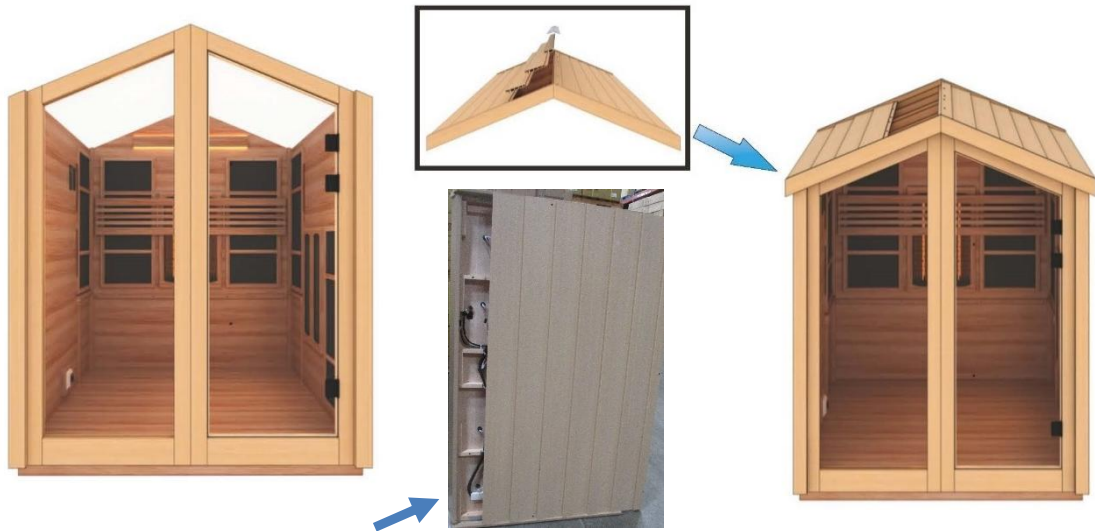

Figure 4a
1. Before installing the ROOF PANEL, you will need to remove the indicated tile sections of the LEFT SIDE ROOF PANEL and RIGHT SIDE ROOF PANEL with a Philips screwdriver. This will allow you to make the necessary connections for the ceiling lights and to screw the two ROOF PANEL sections together. Next, three - four adults can place the two sections of the ROOF PANEL up and onto the sauna room starting with the RIGHT SIDE ROOF PANEL and then the LEFT SIDE ROOF PANEL. You will need to feed the wire connections through the LEFT SIDE ROOF PANEL at the rear. See figure 4. Be sure not to pinch the wires when installing the LEFT SIDE ROOF PANEL. After the two sections of the of the ROOF PANALS have been installed, connect the wires to their respected counterparts. See figure 4. Next, use the provided screws to screw the two ROOF PANEL sections together. You can now replace the two tile sections of the LEFT SIDE ROOF PANEL and RIGHT SIDE ROOF PANEL. Finally, you can use the provided screws to install the ROOF stainless steel tile flange over the where the LEFT SIDE ROOF PANEL and RIGHT SIDE ROOF PANEL meet. (see Figure 4a, 4b, and 4c)